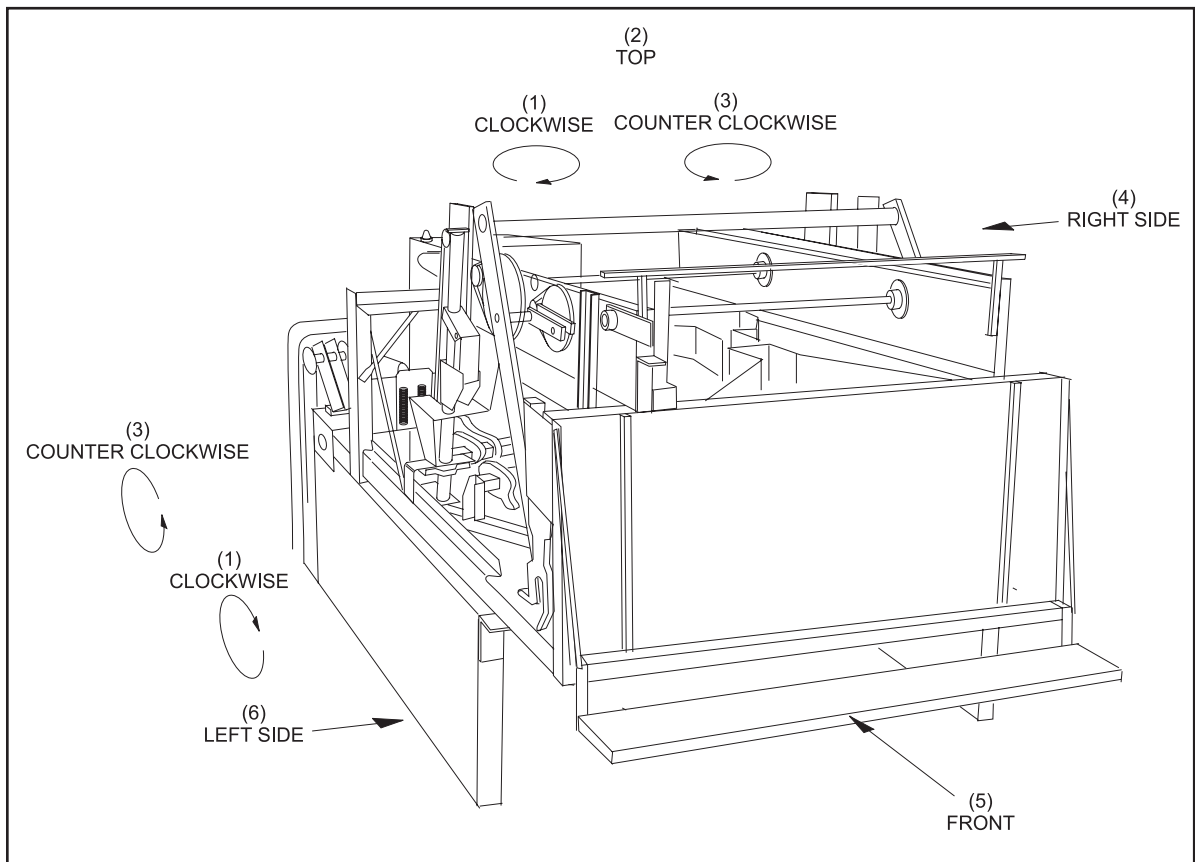

Figure 1-1. Pinsetter Orientation.
Whenever any position such as right, left, forward or rearward, is described this manual, the position is determined while viewing the machine from the foul line. The motion Clockwise (CW) and counterclockwise (CCW), is determined while looking at the pinsetter from the left side or top. Refer to *Figure 1-1*.